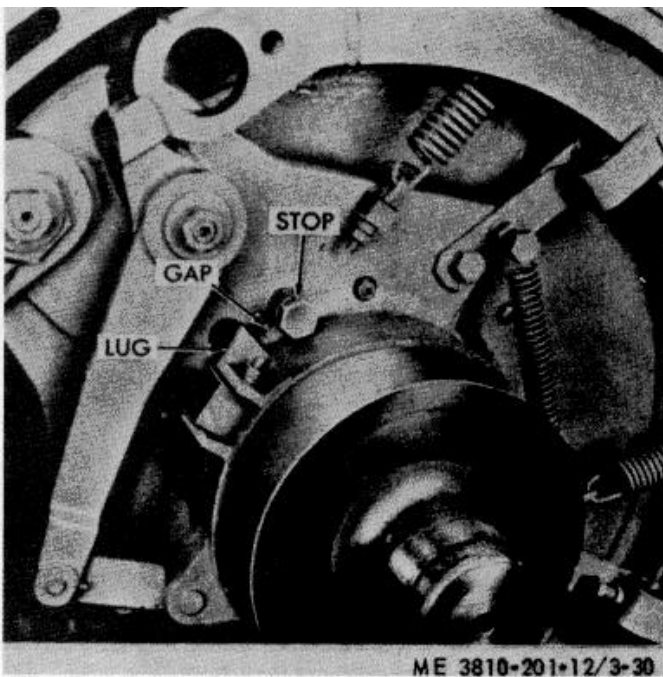

Figure 3-30. Main hoist or auxiliary clutch lining wear determination.
(2) Engage the engine clutch long enough for the clutch to "wrap in", then measure gap (fig. 3-30) between lug and stop on clutch spider. If there is less than 1/2 inch clearance between these points, the main clutch linings are worn and must be tightened. If there is more than 1/2 inch clearance between the above points the auxiliary clutch must be adjusted.